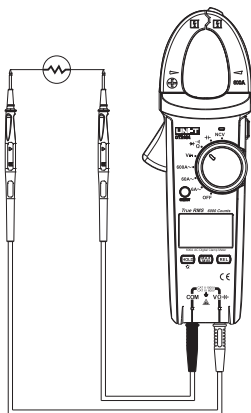

Figure 8
5. Resistance measurement (See Figure 8)